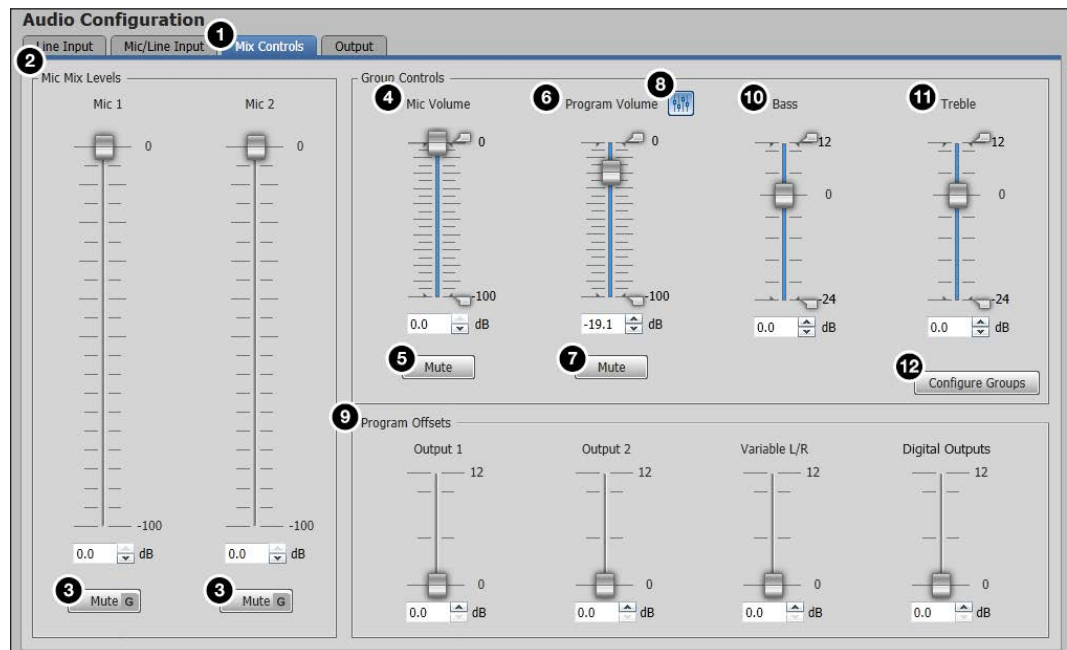

Figure 72. Mix Controls Tab
After the audio inputs have been properly configured, select the **Mix Controls** tab (see figure 72, **1**) to mix microphone levels, create a mix of the microphone and program volume, and set bass and treble settings.
1. Click the **Mix Controls** tab (see **figure 72, ①**, on page 104).
2. Adjust the level using any of the following methods (**②**):
3. To mute the mic/line gain, click the **Mute** button (**③**), below the corresponding **Mic** fader.
1. Click the **Mix Controls** tab (see **figure 72, ①**, on the previous page).
2. Adjust the level using any of the following methods (**④**):
4. To mute the microphone inputs, click the **Mute** button (**⑤**) below the **Mic Volume** fader.
1. Click the **Mix Controls** tab (see **figure 72, 1**, on page 104).
1. Click the **Mix Controls** tab (see figure 72, **1**, on page 104).